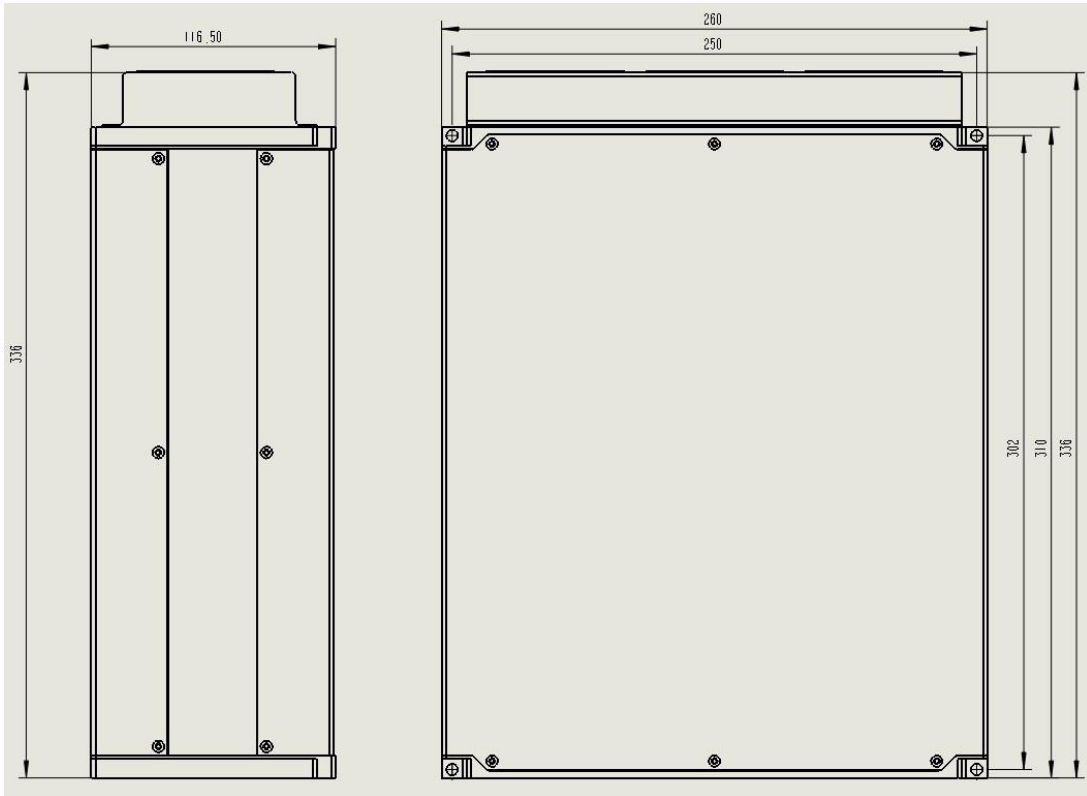

Figure 1 Dimension drawing of laser module (Unit: mm).
a) Fiber Laser module dimensions (As shown in Fig. 1).